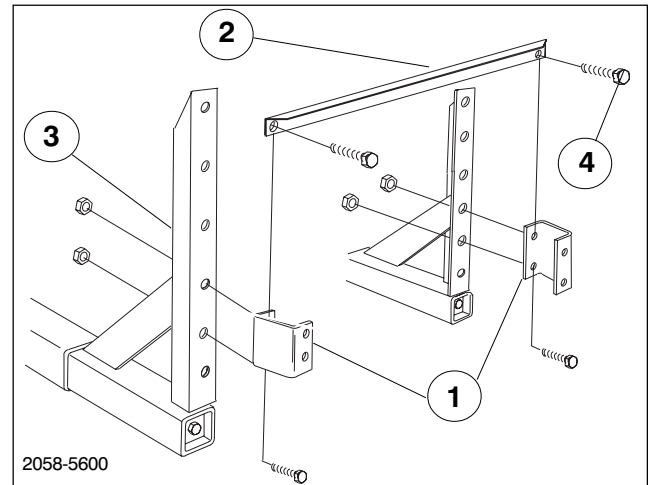

FIG. 3
3. Assemble the two (2) Boom Mounting Brackets along with Angle Cross Member. Tighten all bolts, torque wedge to mounts and tighten to **50 ft-lbs.** using two (2) 1/2" x 1 1/2" Bolts, two (2) 1/2" x 1 1/4" Bolts and four (4) Locknuts. (See FIG 3)